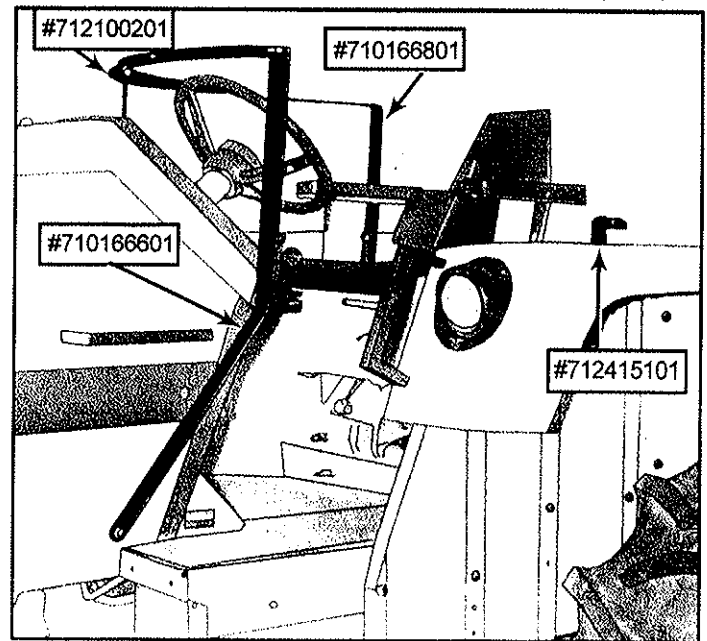

Figure 2
1. Bolt #710166601 door post to left side of tractor using 5/16" x 1 1/2" hex bolt in bottom and 5/16" x 3/4" at the slot. Do not tighten up tight at this time. See Figure 2.
8. Place #712415101 door latch up under door and mark. Drill two 13/32" holes in fender and bolt latch to fender using 3/8" x 1 1/2" hex head bolts and nuts. See Figures 2 & 4.